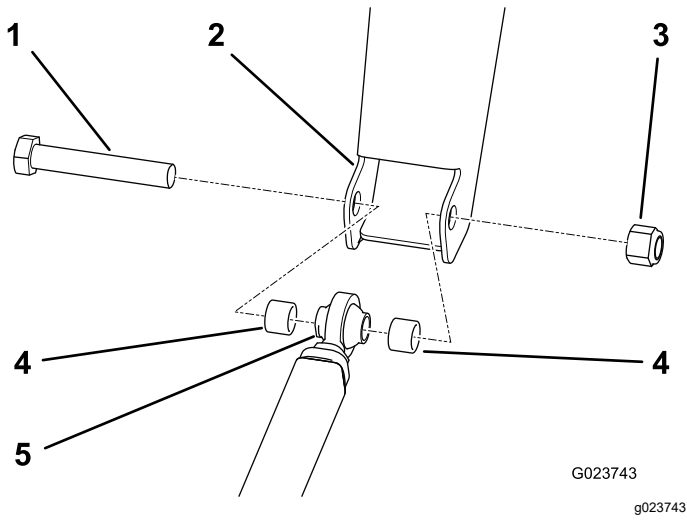

Figure 15
1. Align the rod end of the drawbar to the frame hitch (Figure 15).